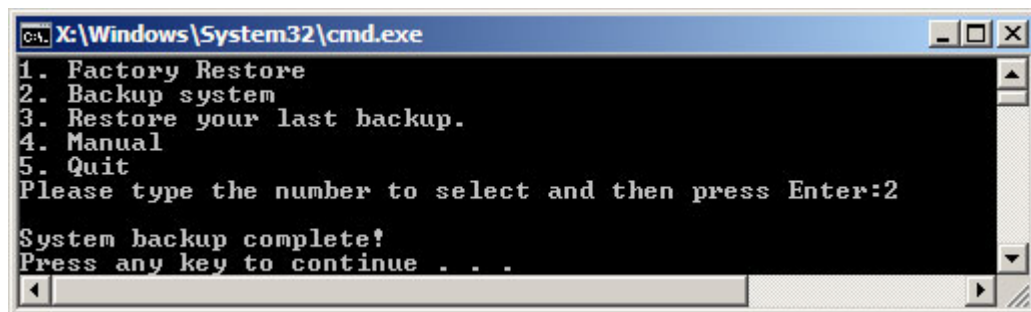

Figure B-30: System Backup Complete Window
Step 3: The screen is shown as in **Figure B-30** when system backup is completed.
Step 3: The screen is shown as in **Figure B-30** when backup recovery is completed. Press any key to reboot the system.